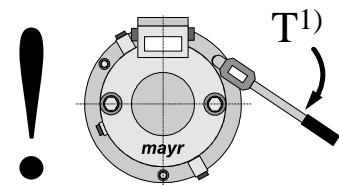

Fig. 7
7. Attach the brake by means of cap nuts (19) and washers (20) (Fig. 7). **A tilting must be avoided! Tightening torques T¹ for sizes 8 and 9 = 13 Nm and for size 10 = 26 Nm must be observed!**